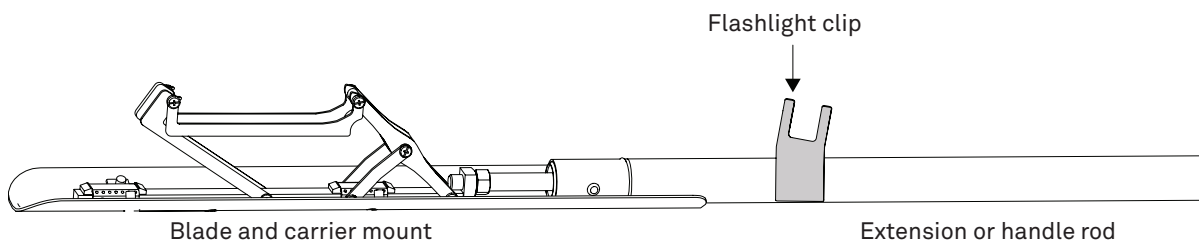

Figure 8 Flashlight clip mounted
1. Mount the flashlight clip on the side of the lower end of the rod (Figure 8).